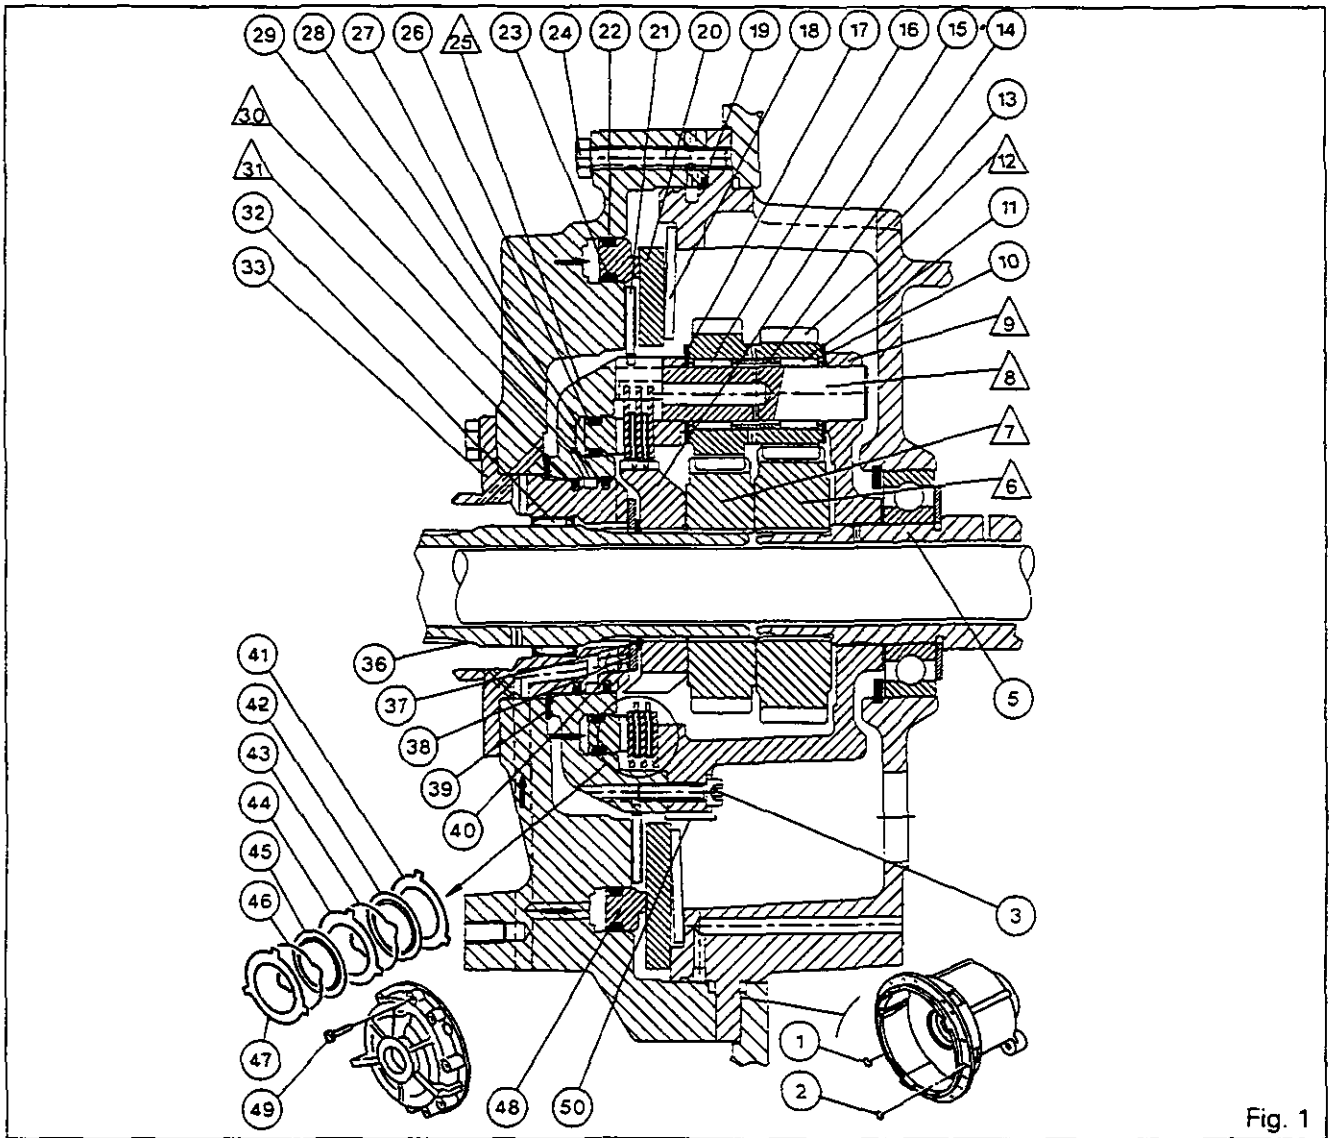

Fig. 1
32. Move arm **B** to «creeper speed» position (Fig. 4) (gearbox teeth **(8)** engaged backwards (Fig. 1). Fork should be locked.
They also use the reduction function of the hydro-mechanical device included in the input housing. In this configuration, the following modifications have been made (Fig. 1):